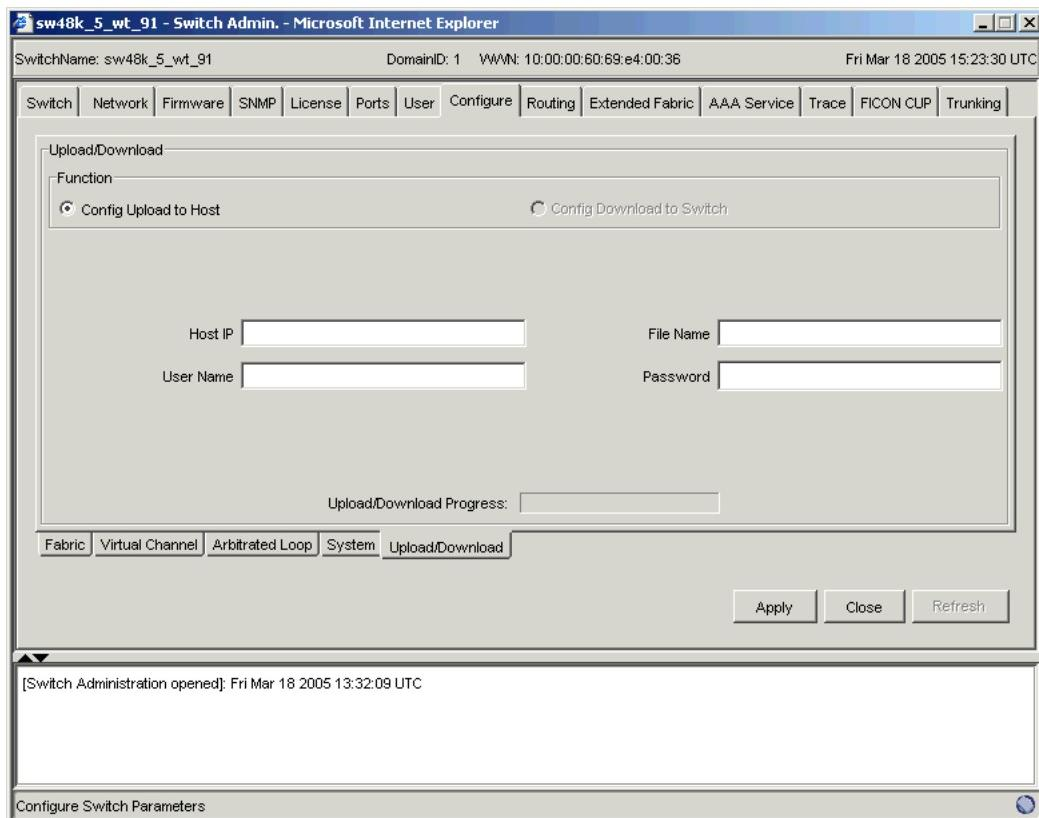

Figure 18 Configure tab, Upload/Download Subtab
This section contains procedures for basic switch configuration maintenance. Use the Configure tab and Upload/Download subtab of the Switch Admin module to perform these tasks (see Figure 18).
3. Click the **Upload/Download** subtab (see Figure 18).
4. Click the **Upload/Download** subtab (see Figure 18 on page 59).